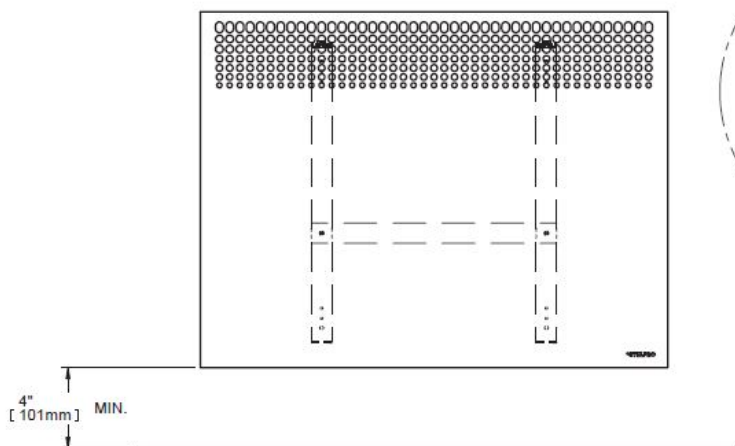

FIGURE 6
4. The unit must be mounted at least 4 inches (10.2 cm) from the floor.(FIGURE 6)